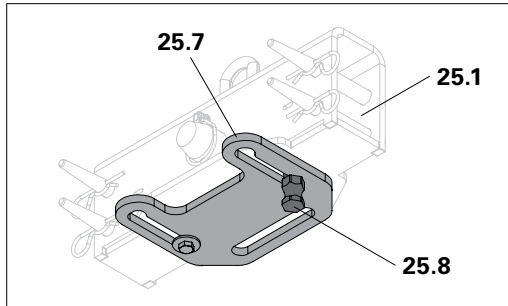

Fig. B5.05
9. Insert the Slide Plate (25.7) and secure with the threaded bolt (25.8). (Fig. B5.05)